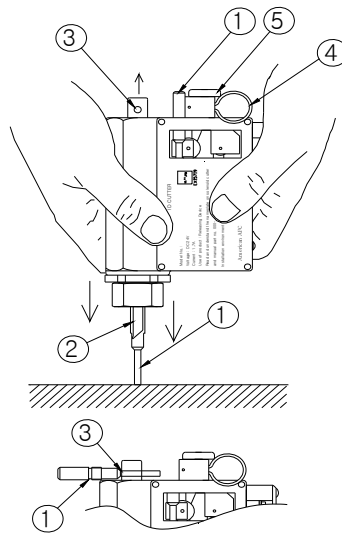

Figure 5.2. Resetting the Solenoid Cutter.
2. Remove the solenoid cutter from the actuation cylinder valve. Note that if the solenoid cutter supervisor is installed, removal of the solenoid cutter may activate the releasing device supervisory alarm at the releasing control panel. Referring to Figure 5.2, perform the following:
3. Pull-out (unscrew) the safety pin ① and cap the needle ② with the safety pin ①.
4. Press the device as shown in Figure 5.2 until the needle is fully retracted or in SET position. Make sure that PUSH button ⑤ is securely fastened.
5. Insert the safety pin ① into the hole at the needle base ③. Make sure that SET position is secured.